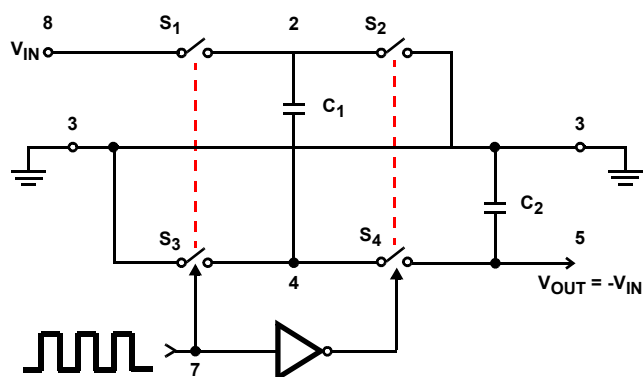
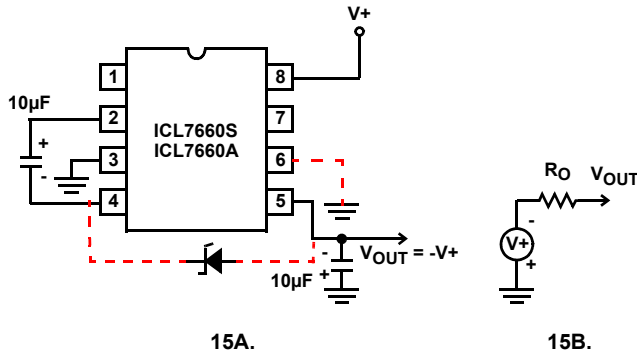
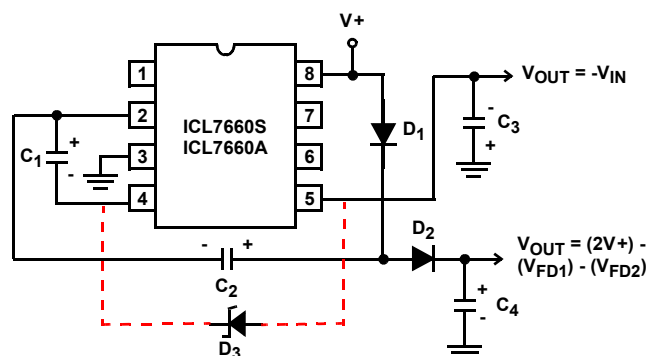

FIGURE 14. IDEALIZED NEGATIVE VOLTAGE CONVERTER
FIGURE 15. SIMPLE NEGATIVE CONVERTER AND ITS OUTPUT EQUIVALENT
FIGURE 19. COMBINED NEGATIVE VOLTAGE CONVERTER AND POSITIVE DOUBLER
The ICL7660S and ICL7660A contain all the necessary circuitry to complete a negative voltage converter, with the exception of two external capacitors, which may be inexpensive 10 μ F polarized electrolytic types. The mode of operation of the device may best be understood by considering Figure 14, which shows an idealized negative voltage converter. Capacitor C_1 is charged to a voltage, V_+ , for the half cycle, when switches S_1 and S_3 are closed. (Note: Switches S_2 and S_4 are open during this half cycle). During the second half cycle of operation, switches S_2 and S_4 are closed, with S_1 and S_3 open, thereby shifting capacitor C_1 to C_2 such that the voltage on C_2 is exactly V_+ , assuming ideal switches and no load on C_2 . The ICL7660S and ICL7660A approach this ideal situation more closely than existing non-mechanical circuits.
In the ICL7660S and ICL7660A, the four switches of Figure 14 are MOS power switches; S_1 is a P-Channel device; and S_2 , S_3 and S_4 are N-Channel devices. The main difficulty with this approach is that in integrating the switches, the substrates of S_3 and S_4 must always remain reverse biased with respect to their sources, but not so much as to degrade their "ON" resistances. In addition, at circuit start-up, and under output short circuit conditions ($V_{OUT} = V_+$), the output voltage must be sensed and the substrate bias adjusted accordingly. Failure to accomplish this would result in high power losses and probable device latch-up.
where V_1 and V_2 are the voltages on C_1 during the pump and transfer cycles. If the impedances of C_1 and C_2 are relatively high at the pump frequency (see Figure 14) compared to the value of R_L , there will be a substantial difference in the voltages, V_1 and V_2 . Therefore it is not only desirable to make C_2 as large as possible to eliminate output voltage ripple, but also to employ a correspondingly large value for C_1 in order to achieve maximum efficiency of operation.
The majority of applications will undoubtedly utilize the ICL7660S and ICL7660A for generation of negative supply voltages. Figure 15 shows typical connections to provide a negative supply where a positive supply of +1.5V to +12V is available. Keep in mind that pin 6 (LV) is tied to the supply negative (GND) for supply voltage below 3.5V.
The output characteristics of the circuit in Figure 15 can be approximated by an ideal voltage source in series with a resistance as shown in Figure 15B. The voltage source has a value of $-(V_+)$. The output impedance (R_O) is a function of the ON resistance of the internal MOS switches (shown in Figure 14), the switching frequency, the value of C_1 and C_2 , and the ESR (equivalent series resistance) of C_1 and C_2 . A good first order approximation for R_O is shown in Equation 2:
Figure 19 combines the functions shown in Figure 15 and Figure 18 to provide negative voltage conversion and positive voltage doubling simultaneously. This approach would be suitable, for example, for generating +9V and -5V from an existing +5V supply. In this instance, capacitors C_1 and C_3 perform the pump and reservoir functions, respectively, for negative voltage generation, while capacitors C_2 and C_4 are pump and reservoir, respectively, for the doubled positive voltage. There is a penalty in this configuration which combines both functions, however, in that the source impedances of the generated supplies will be somewhat higher, due to the finite impedance of the common charge pump driver at pin 2 of the device.
resistor to the LV pin ensures start-up. Because the switches share the load in parallel, the output impedance is much lower than in the standard circuits, and higher currents can be drawn from the device. By using this circuit, and then the circuit of Figure 15, +15V can be converted, via +7.5 and -7.5, to a nominal -15V, although with rather high series output resistance ($\sim 250\Omega$).